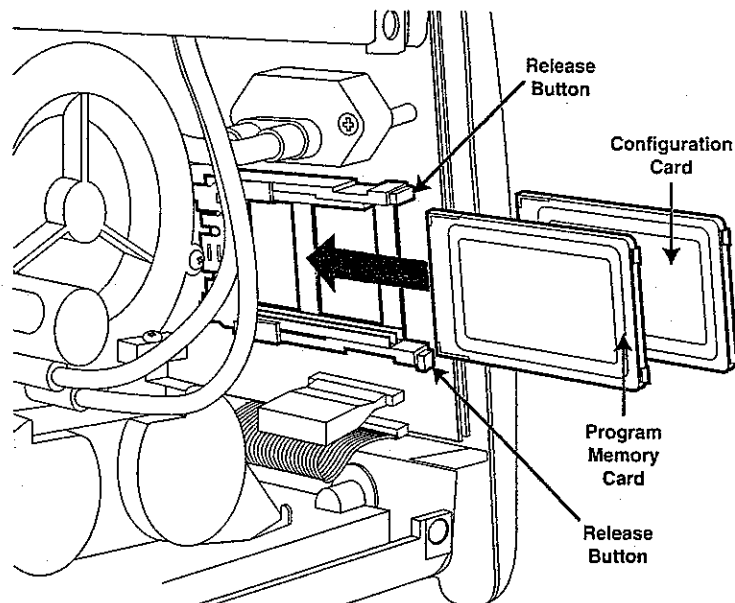

Figure 5-3. Program Memory Card and Configuration Memory Card
- 4 Referring to Figure 5-3, press the release button on the lower edge of the card receptacle to eject the Program Memory Card. Note the orientation of the Program Memory Card as it is removed from the ventilator
- 5 Referring to Figure 5-3, press the release button on the upper edge of the card receptacle to eject the Configuration Memory Card. Note the orientation of the Configuration Memory Card as it is removed from the ventilator .